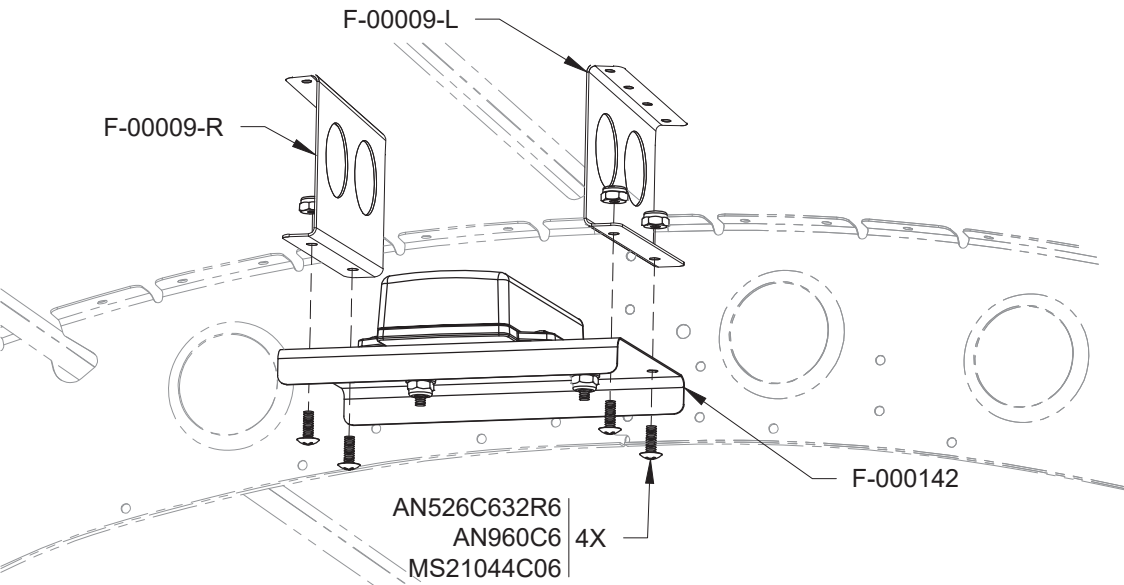

FIGURE 2: MOUNTING THE GMU 11
Step 2: Mount the F-00142 to the F-00009-L & -R ADAHRS Brackets in the upper tailcone skins as shown in Figure 2. Ensure the GMU 11 connector is facing aft.